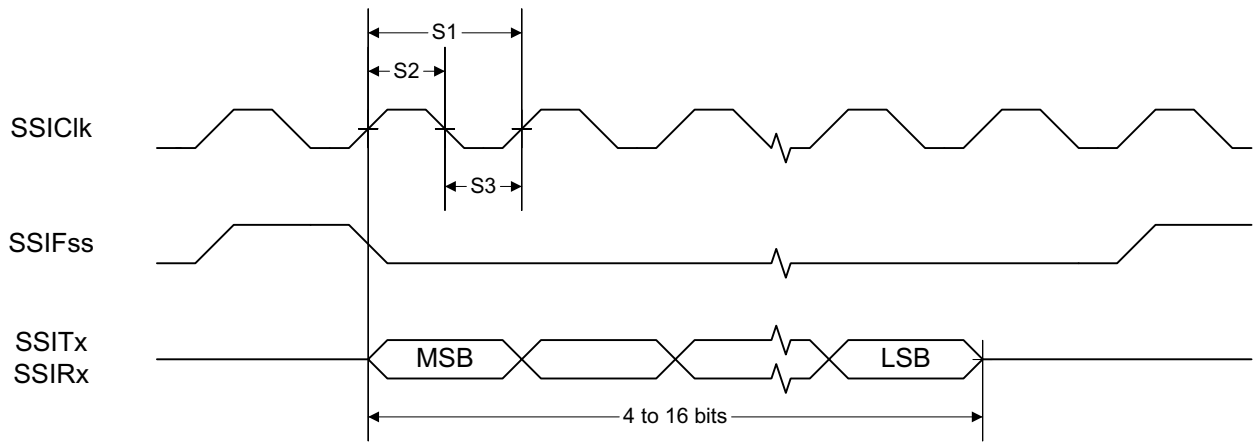
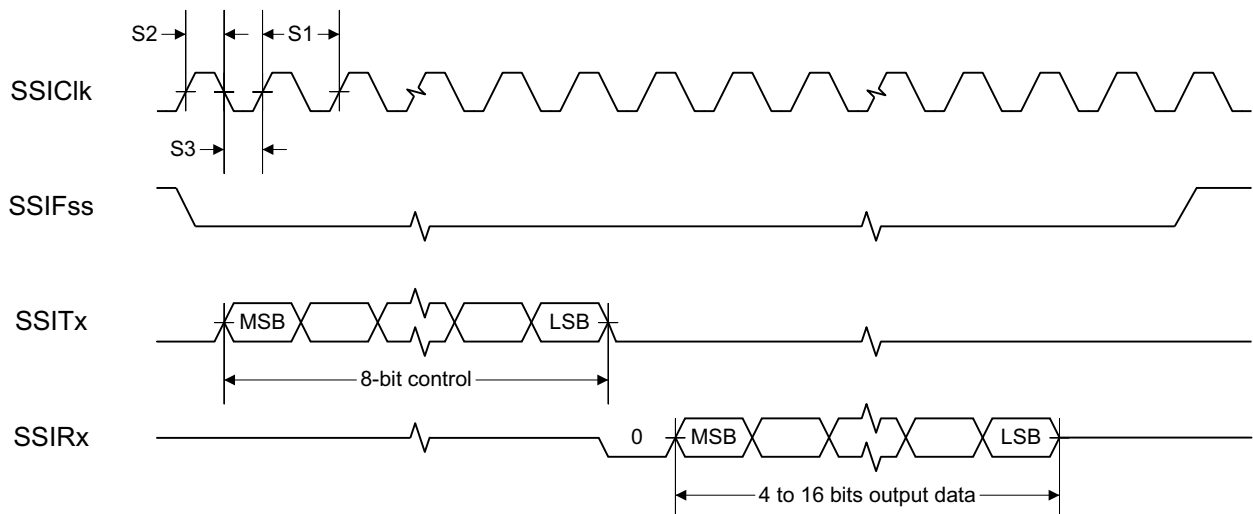
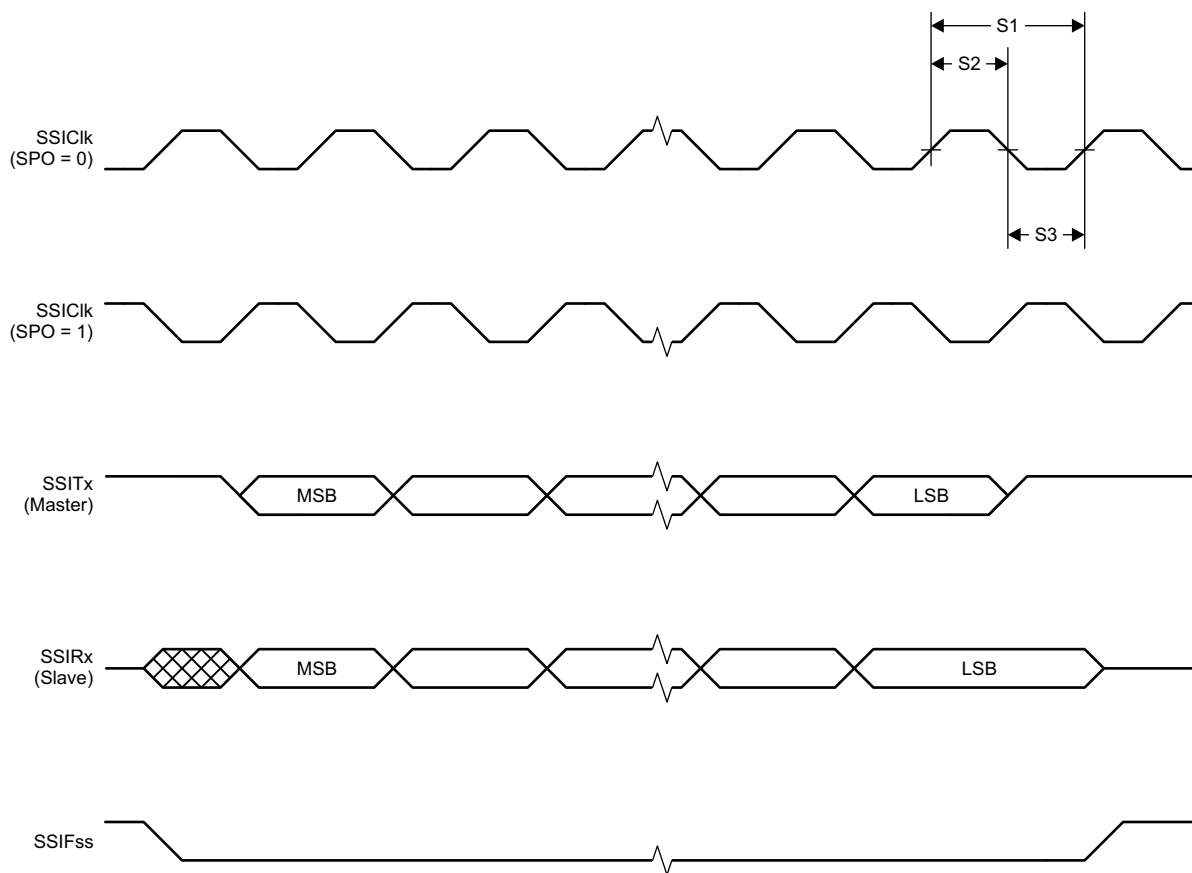

图 8-1. SSI Timing for TI Frame Format (FRF = 01), Single Transfer Timing Measurement
图 8-2. SSI Timing for MICROWIRE Frame Format (FRF = 10), Single Transfer
图 8-3. SSI Timing for SPI Frame Format (FRF = 00), With SPH = 1
- (1) Refer to SSI timing diagrams 图 8-1, 图 8-2, and 图 8-3
(2) When using the TI-provided Power driver, the SSI system clock is always 48 MHz.